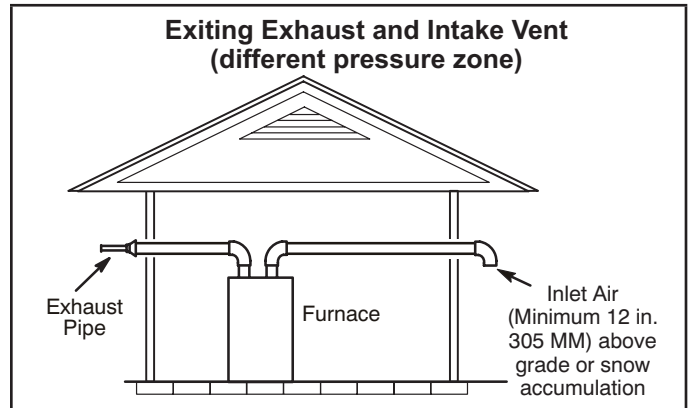

FIGURE 27
- 1 - Intake and exhaust terminations are not required to be in the same pressure zone. You may exit the intake on one side of the structure and the exhaust on another side (FIGURE 27). You may exit the exhaust out the roof and the intake out the side of the structure (FIGURE 28).